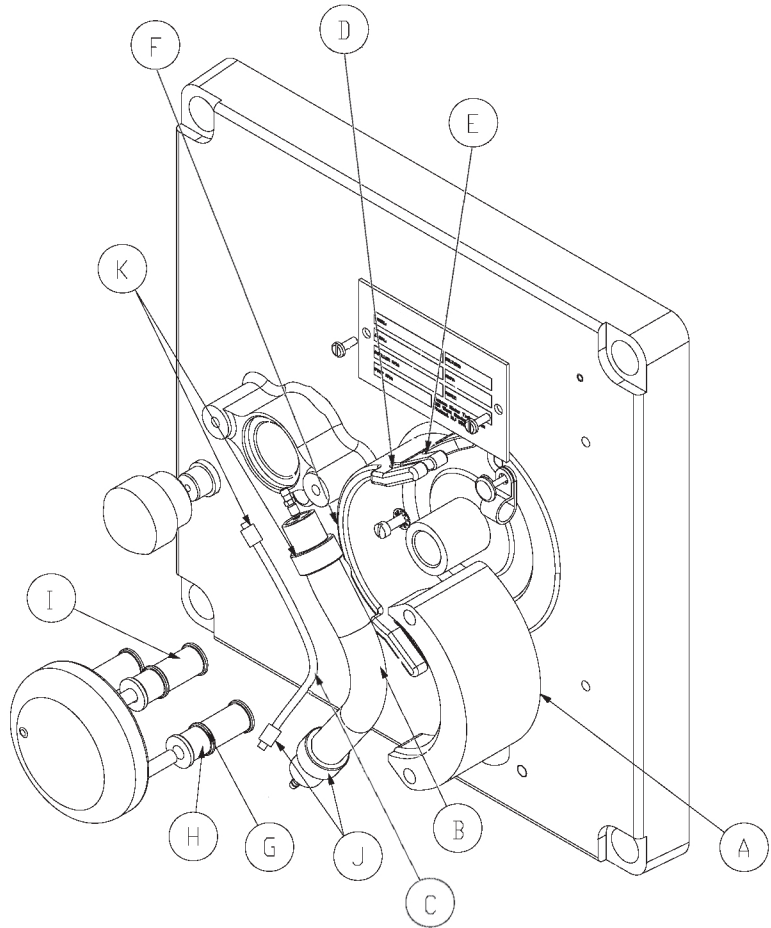

Figure 5.1
- Installation of tube units (refer to Figure 5.1):